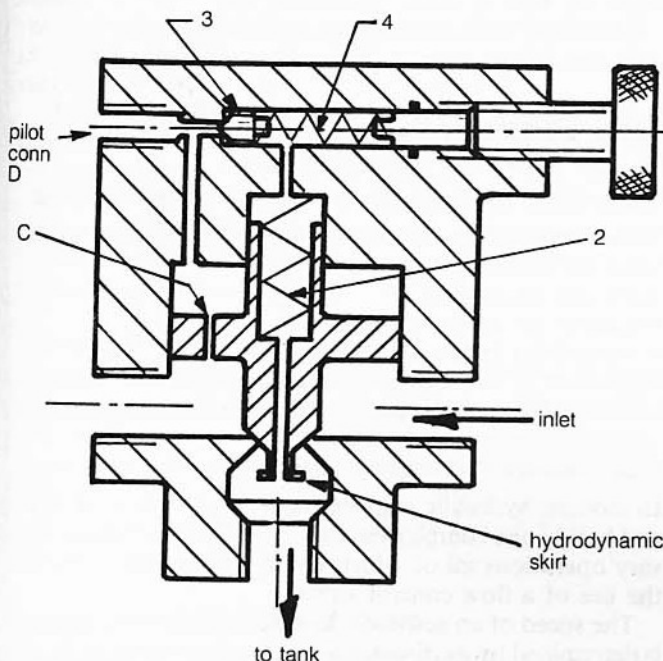

Figure 14 Compound balanced piston relief valve
At pressures less than the valve setting, passage C (see Fig. 14) maintains balanced pressures above and below the piston, and the light spring holds it closed. The setting of poppet (3) and adjusting spring (4) limits the pressure acting to hold the valve closed, and pressure at the valve inlet and under the piston can increase only slightly more